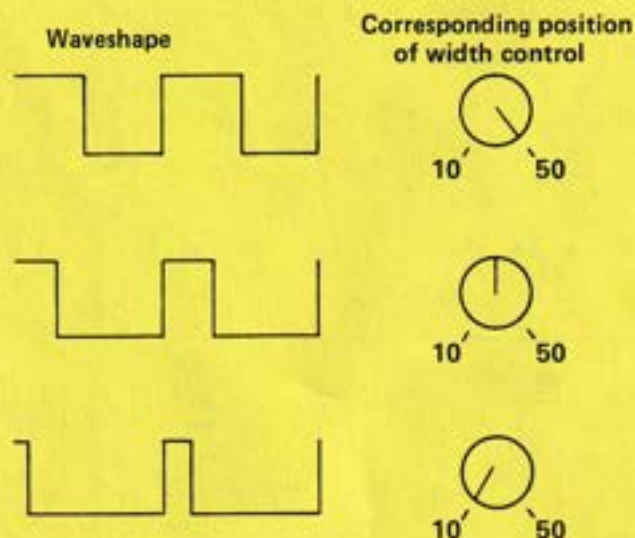

Fig. 3
ACTION: select the rectangular wave (8) and then turn down the width control. This has the effect of decreasing the positive period of the vibration cycle whilst increasing the period of the negative part (see Figure 3).